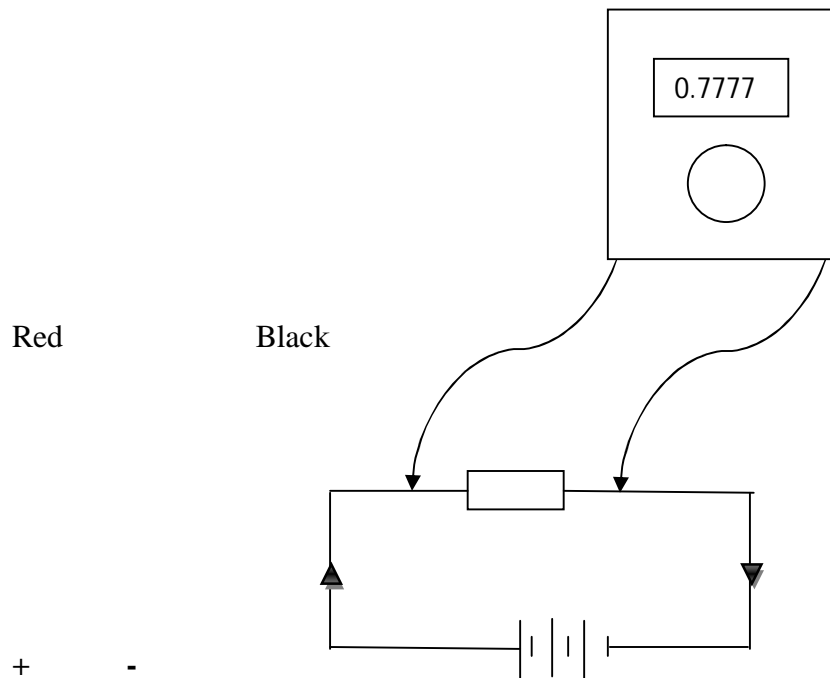

Figure 2.7: Circuit Arrangement for the Measurement of Potential Difference Using a Multimeter
4. Place the metallic probes across the component to be tested (In parallel) as shown in Figure 2.7, regardless of the polarities;